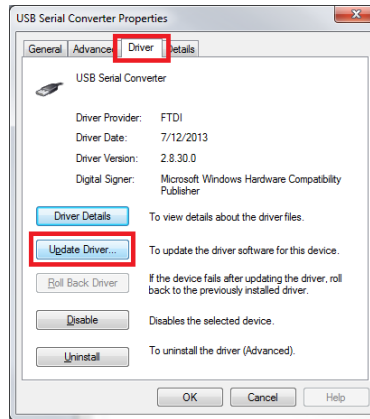

Figure 2-7. Update Driver Option
7. Enter the **Driver** tab, and click the **Update Driver** button, as shown in Figure 2-7.